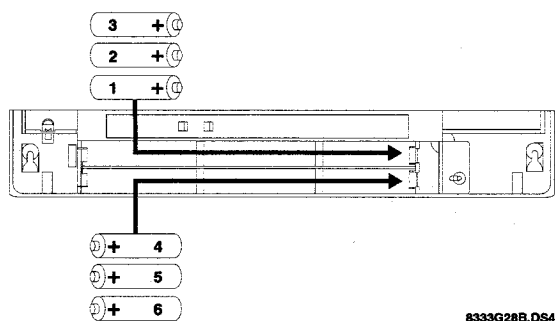

Figure 5. Battery Polarity and Order of Installation
- 5) Install six of the appropriate AA batteries in the order and direction shown in Figure 5
- 2) Remove the backup batteries from the battery bucket, in reverse order of the installation shown in Figure 5. Then proceed to step 7 in "To install backup batteries" to complete the replacement.